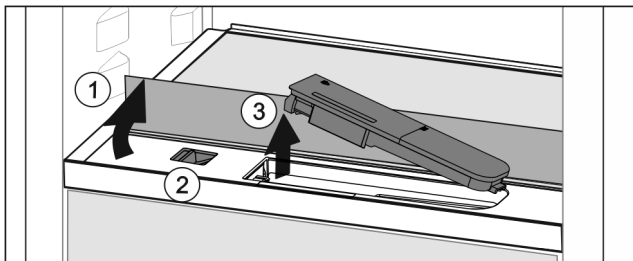

Fig. 48
- ▶ Lift the glass panel and fold towards the rear until it clicks into place Fig. 48 (1).
- ▶ Slide the slider Fig. 48 (2) to the left.
- ▶ Remove the water tank Fig. 48 (3).